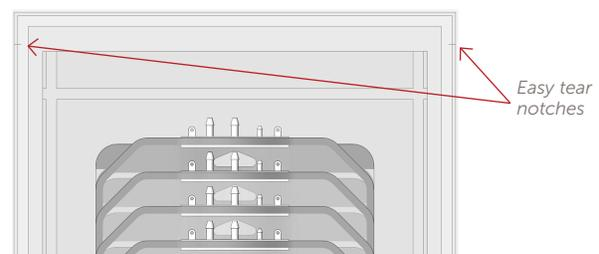

Figure 2. Easy tear notches
2. There are two sealed bags protecting the Aramus subassembly. To open the outer bag, grip the side of the protective packaging bag and use the “easy tear” notches, Figure 2, to pull in opposite directions, allowing the top section and main body of the packaging to separate and subsequently open the bag. Repeat this procedure to open the inner protective package.